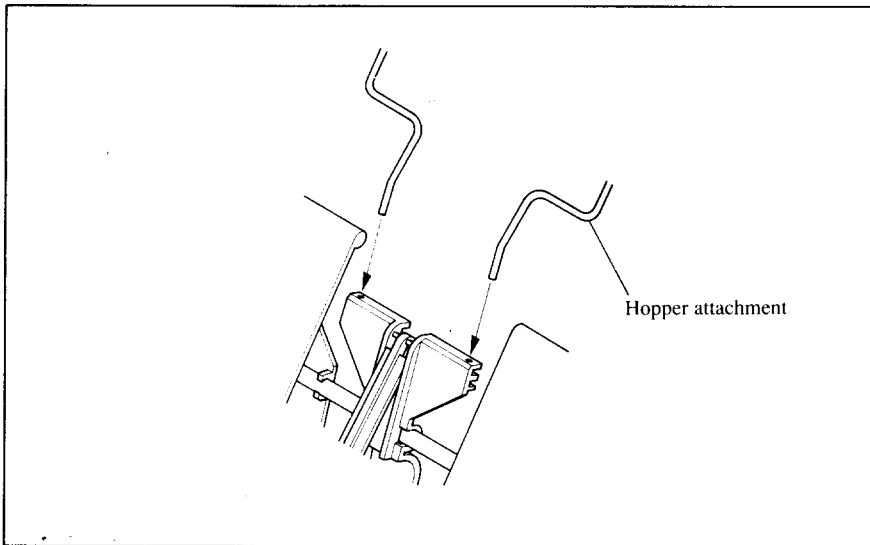

Figure 3-6. Insert the hopper attachment.
8. Insert the hopper attachment by hand into the holders on top of the hopper support section as shown in Figure 3-6.